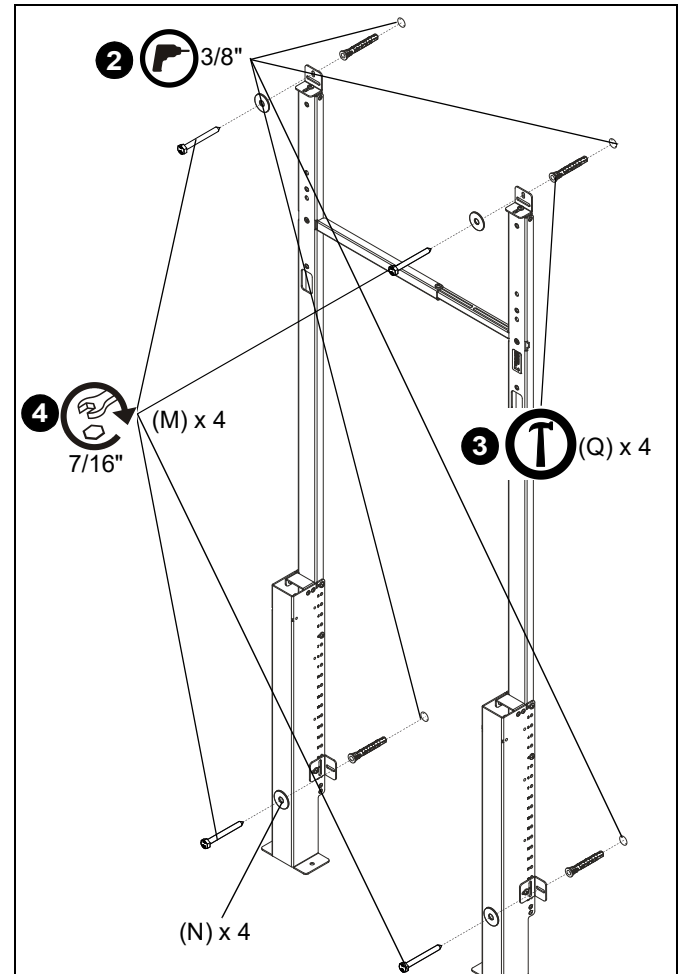

Figure 15
1. Mark hole locations at each mounting location based on locations of wall brackets (F). Use a level to ensure of an even mount. (See Figure 15)
2. Drill 7/32" holes with a depth of 2 3/8" on marked hole locations. (See Figure 15)
3. Use hammer to install four concrete anchors (Q) into drilled holes. (See Figure 15)
4. Use four 1/4-20 x 2 1/2" hex head lag screws (M) and four 1/4" washers (N) to secure wall brackets (F) to wall. (See Figure 15)